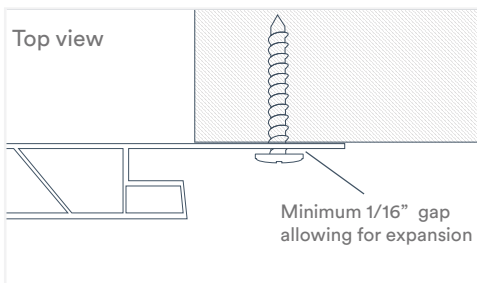

Fig. 4
- Allow a minimum of 1/16" (about the thickness of a dime) between the back of the screw head and the screw flange (Fig. 4)